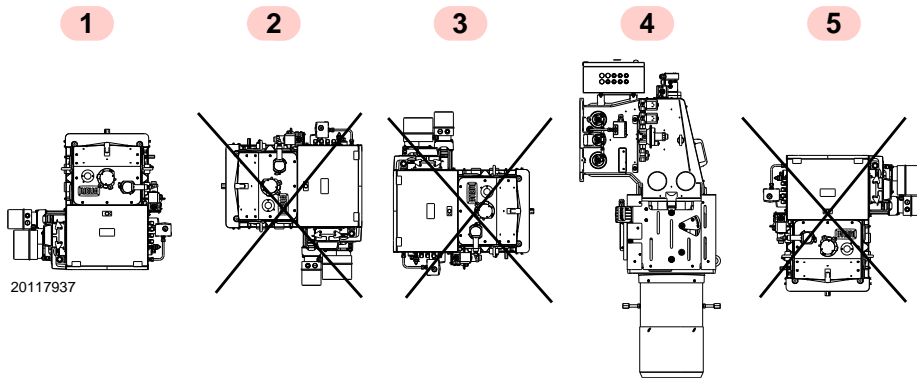

Fig. 10
- The burner is set up to work only in positions 1 and 4 (Fig. 10).